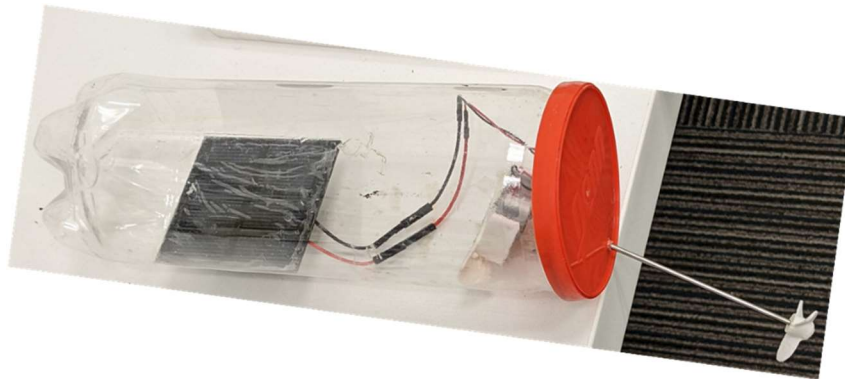

Figure 2 Clear Plastic tube with motor and PV cell inside
- D. A wide range of materials and approaches can be considered for construction. Figure 2 shows an enclosed design having the motor and PV panel inside the floating container.